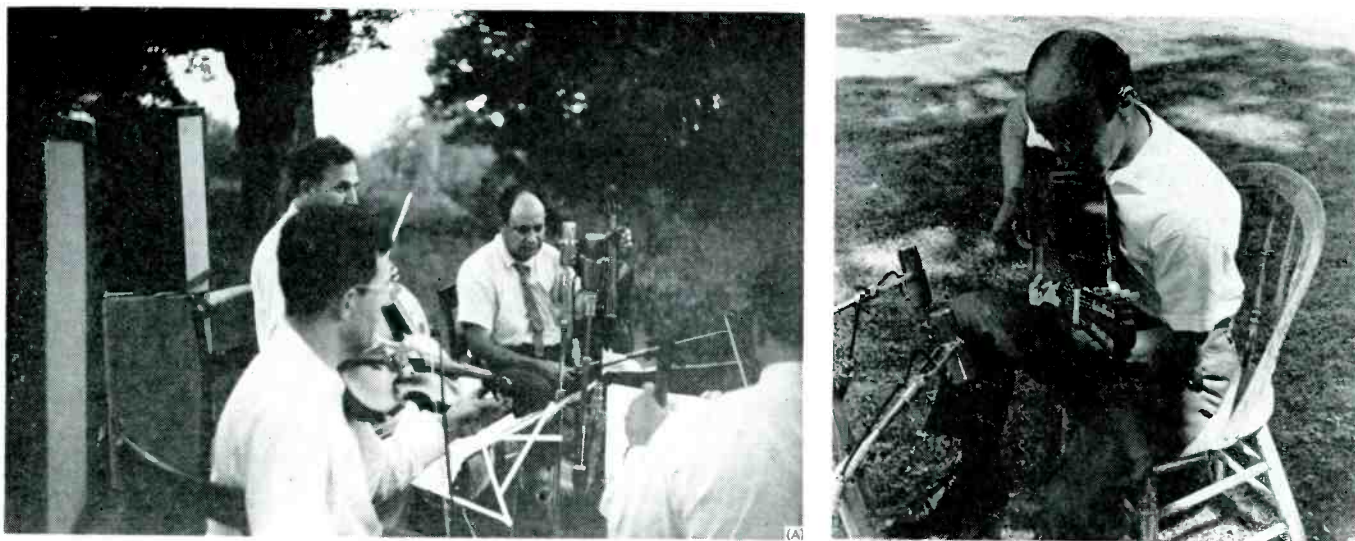

Fig. 2. Microphone placement for: (A) outdoor recording of Fine Arts Quartet (position was critical); (B) Gustavo Lopez.
The two recording channels do not in this case represent the aural perspective of each ear, but rather the actual physical spread of the musical source. Microphones for the quartet were spaced farther apart than for the guitar, as shown in (A) and (B) in Fig. 2. In recording the organ, microphones were placed right in the chamber.